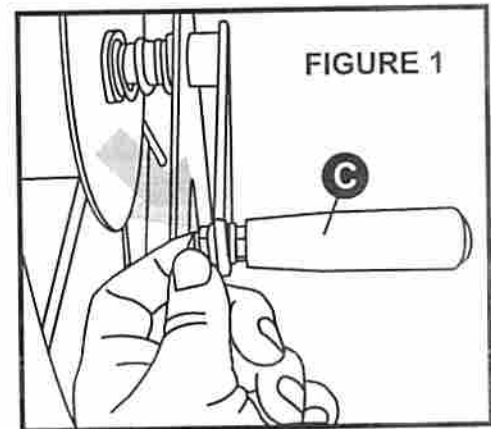

FIGURE 1
1. Remove the top flange nut on the grip handle (C). Attach the handle and lower nut to the steel crank. Using adjustable wrench or your hand, tighten nuts on the front and back of the steel crank. The two nuts may be adjusted to allow the handle to rotate freely. **Figure 1**